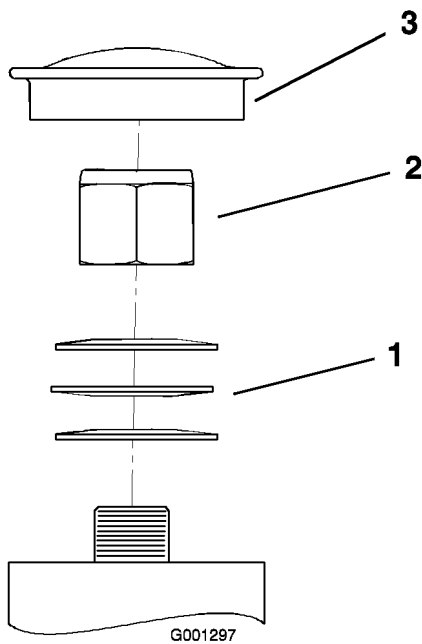

Figure 56
3. Remove the dust cap from caster and tighten lock nut (Figure 56).
4. Tighten the locknut until the spring washers are flat and then back off a 1/4 turn to properly set the pre-load on the bearings (Figure 56).
Important: Make sure spring washers are installed correctly as shown in Figure 56.
5. Install the dust cap (Figure 56).